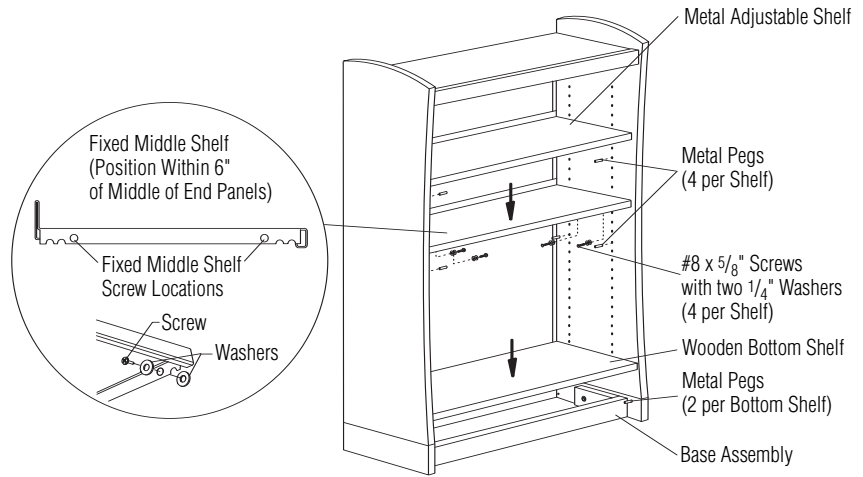

Figure 5
9. Bottom shelf. Insert (2) metal pegs into pre-drilled holes just above the base assembly. Lay bottom shelf with routed side down and align onto metal pegs (Figure 5).
10. Fixed center shelf. For 60", 72", 82" and 96" high units, measure up half way on the end panels. Within 6" of this dimension, determine desired shelf location. Rest shelf on four metal pegs. Attach fixed shelf with #8 x 5/8" screws and (2) 1/4" flat washers per screw to the end panel (Figure 5).
11. Adjustable shelves. Insert (4) metal pegs into pre-drilled holes at desired adjustable shelf heights. Set each shelf onto the metal pegs with notched side down. Repeat for each adjustable shelf (Figure 5).